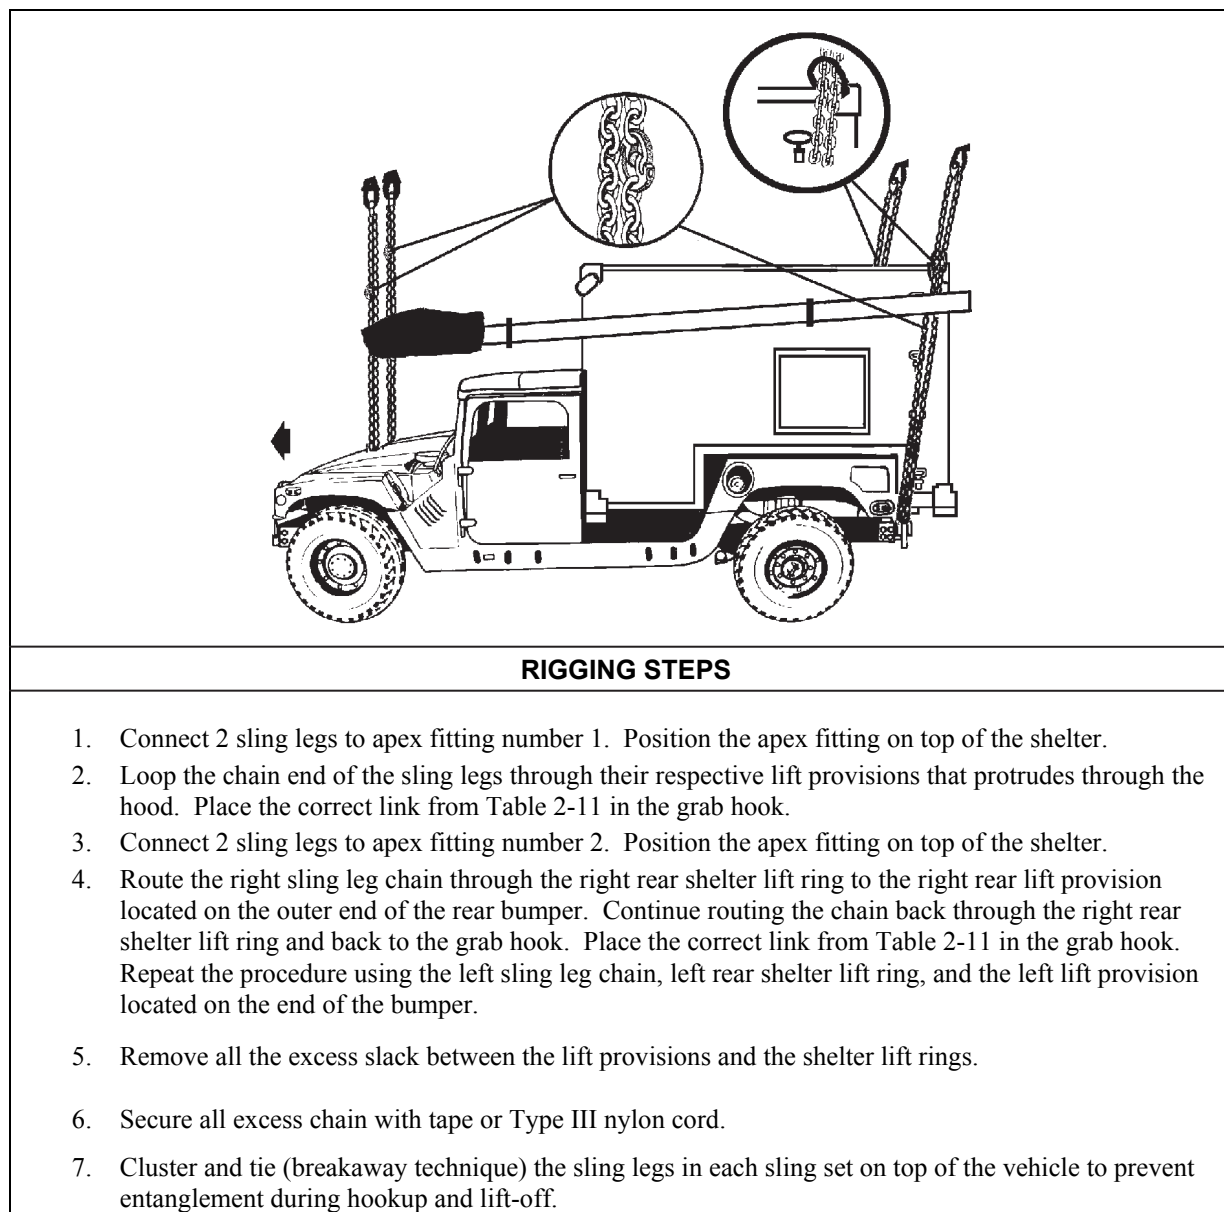

Figure 2-10. M1097A2 Shelter Carrier with Special Operations Media System in S-788G Shelter
- **Rigging.** Rig the load according to the steps in Figure 2-10.